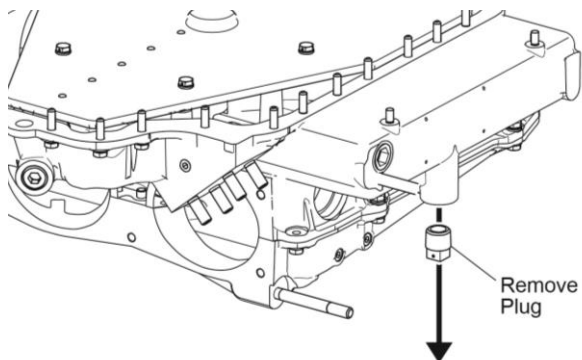

Figure 3
8. If not already done, remove and discard the safety wire/cable from the oil drain plug on the right side of the oil sump then remove and discard the oil drain plug (Figure 3).